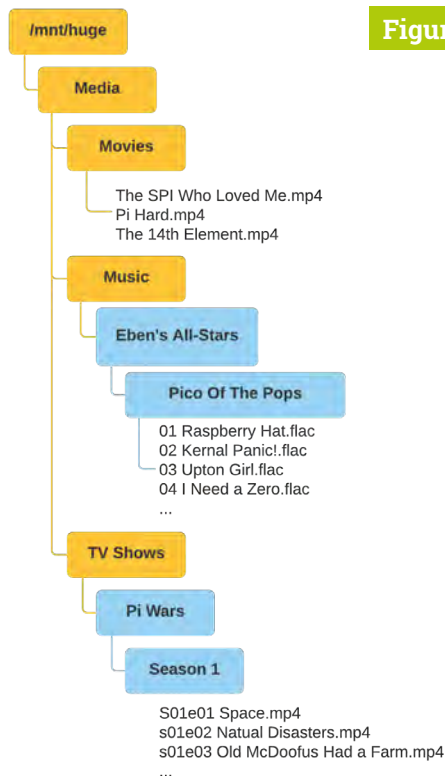

Figure 1
all your media. How you do this is up to you, but when it comes to ripping CDs, many encoders such as abcde (A Better CD Encoder, magpi.cc/abcde) will automatically rip to a given structure, so it can be helpful to plan this out now. See **Figure 1** for an example of a well-laid-out file structure. Don't feel that you have to follow this – if you would prefer more complex (or simple!) divisions, that's completely up to you.
► **Figure 1** Here's an example of a sensible directory structure for your media files. Remember to create it on your external mounted drive